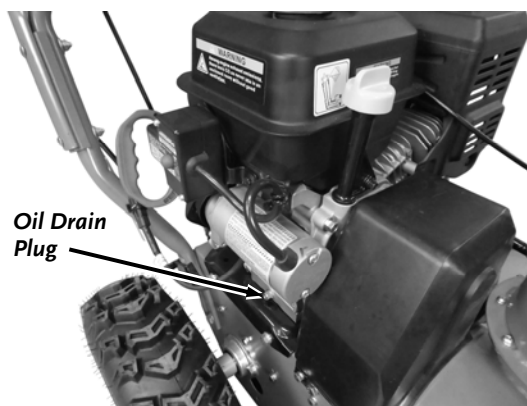

Figure 39
1. Position the machine so the Frame and Engine are level and place a Waste Oil Container under the Oil Drain Plug (**Figure 39**).